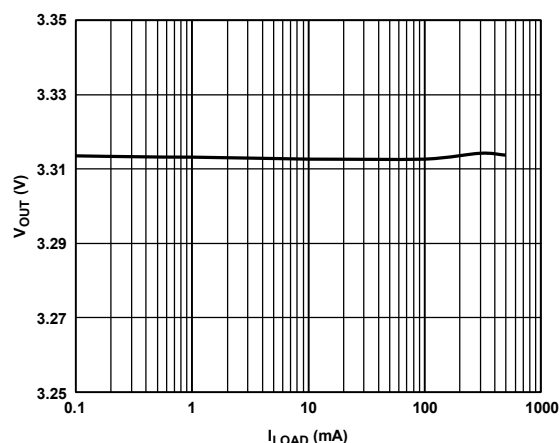

Figure 6. Output Voltage (V_{OUT}) vs. Load Current (I_{LOAD}), $V_{OUT} = 3.3V$
- ¹ Based on an end-point calculation using 1mA and 500mA loads. See Figure 6 for typical load regulation performance for loads less than 1mA.